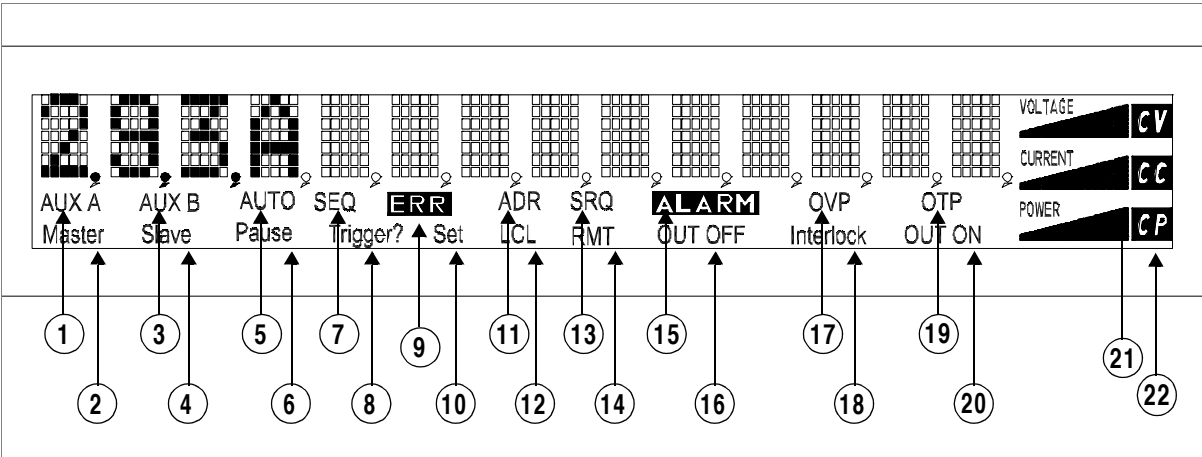
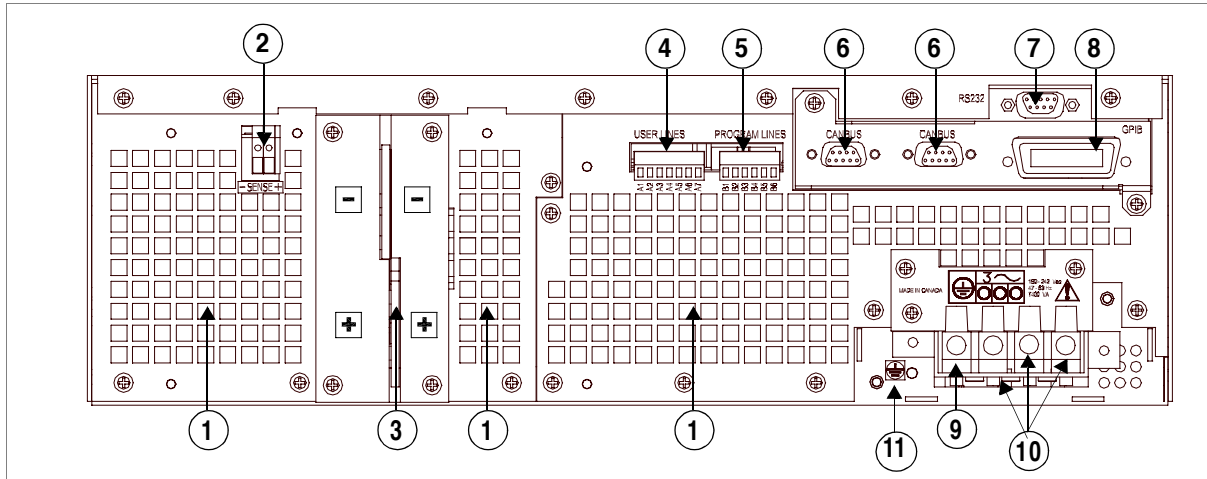

Figure 1.4 Front Panel Display, Status Annunciators
Figure 1.5 Rear Panel (low and medium output shown)
- 2. **Status Annunciators:** See “Status Annunciators” on page 25 and Figure 1.4 for detailed information.
Section 2 provides recommendations and procedures for inspecting, installing, and testing the power supply. For more information about controls and connectors, refer to the front panel diagrams (Figure 1.1 to Figure 1.4) as well as the rear panel diagram (Figure 1.5) in Section 1.